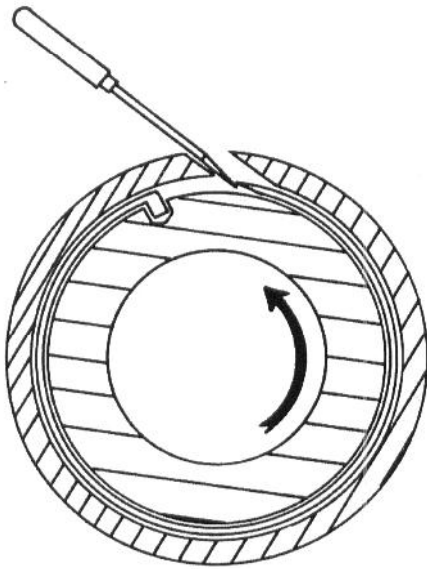

Fig. 45 — Removing Wire Retainer Ring
d. Insert a small screwdriver through hole in barrel ... and under beveled end of wire retainer. Reverse direction of bearing rotation while guiding wire retainer from hole in barrel, see Fig. 45.